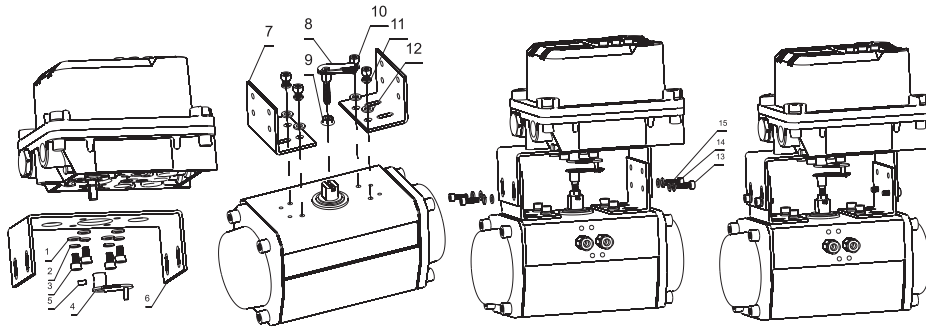

Fig 4-6 Installation on a rotary actuator
The installation steps as follows (Fig. 4-6):
Fix the positioner bracket (Fig. 4-6/⑦) to the positioner with hexagon head screw (Fig. 4-6/③), spring washers (Fig. 4-6/②) and washers (Fig. 4-6/①).
Fix the feedback lever (Fig. 4-6/④) to the shaft of actuator through hexagon head nut (Fig. 4-6/⑤).
Fix the actuator bracket (Fig. 4-6/⑦) to the actuator with hexagon head screw (Fig. 4-6/⑩), spring washers (Fig. 4-6/⑪) and washers (Fig. 4-6/⑫).
Screw in hexagon head nut (Fig. 4-6/⑥) to feedback lever (Fig. 4-6/④), screw in the feedback lever to the actuator and fasten it with the hexagon head nut (Fig. 4-6/⑥).
Put the positioner carefully on the actuator. The pin of the feedback lever (Fig. 4-6/④) should be in the slot of the feedback lever (Fig. 4-6/③). Adjust the height of the positioner, fasten the screw on the pin of the feedback lever (Fig. 4-6/④) and fix the positioner with hexagon head screw (Fig. 4-6/③), spring washers (Fig. 4-6/⑭) and washers (Fig. 4-6/⑮). Adjust the rotate angle of the feedback lever to comply to the requirements in §4.2.1.